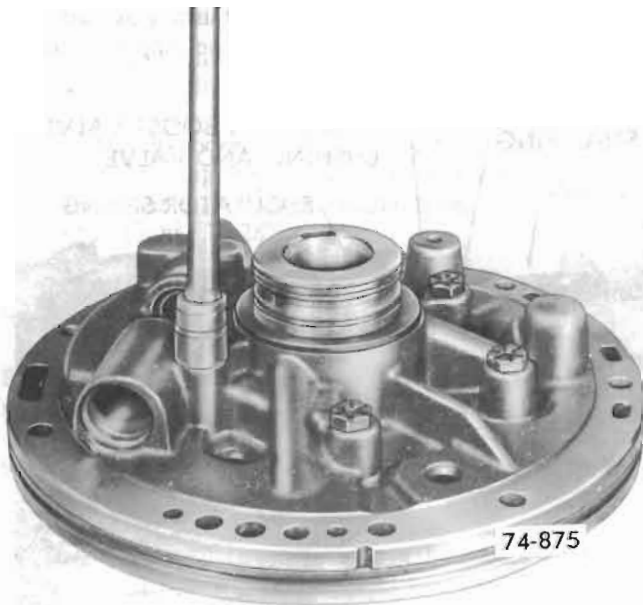

Figure 76-157
6. Remove the pump cover to body attaching bolts. See Figure 76-157.